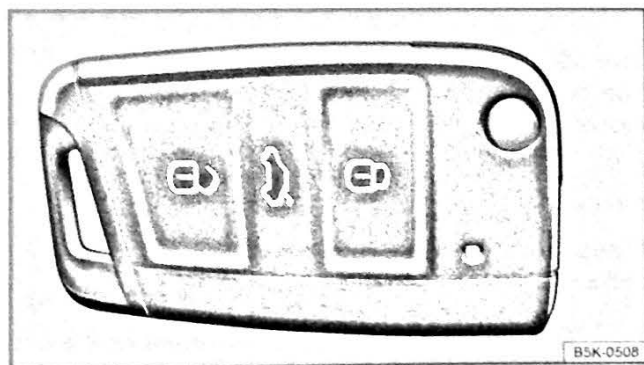
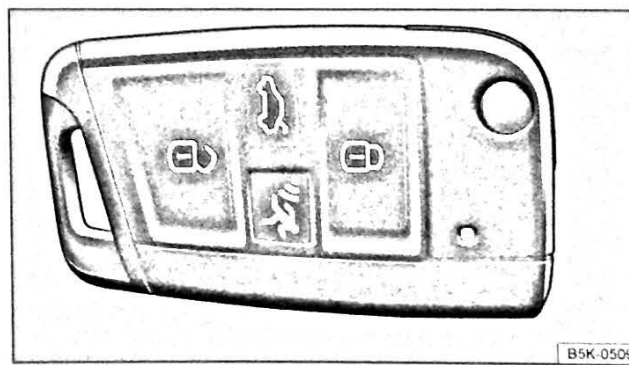
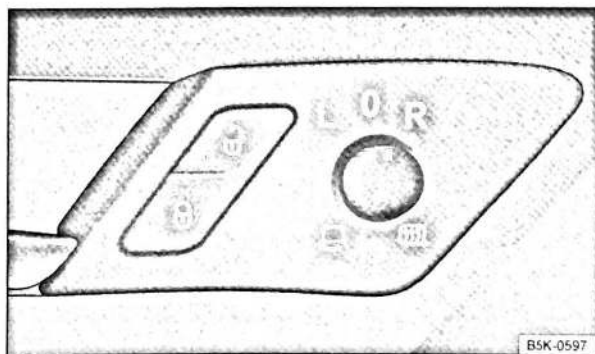

Fig. 27 Buttons on the vehicle key
Fig. 28 Vehicle key with alarm button ▶
Fig. 29 In the driver door: central locking button
The vehicle may lock itself automatically at speeds of approximately 15 km/h (10 mph) and above ⇒ page 31. The indicator lamp  in the central locking button will light up yellow when the vehicle is locked ⇒ Fig. 29.
i If the buttons on the vehicle key ⇒ Fig. 27 or ⇒ Fig. 28 or one of the central locking buttons ⇒ Fig. 29 are pressed repeatedly within a short period of time, the central locking system will switch
Function	Buttons to be used on the vehicle key $\Rightarrow$ Fig. 27 or $\Rightarrow$ Fig. 28
Press the button $\Rightarrow$ Fig. 29:
- The indicator lamp  in the button $\Rightarrow$ Fig. 29 lights up yellow when all doors and the tailgate are closed and locked.
- The  button is pressed $\Rightarrow$ Fig. 29.